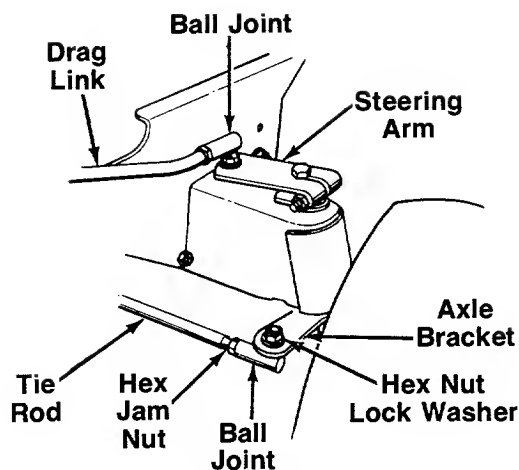

FIGURE 17.
1. Remove the hex nut and lock washer, and drop the end of the tie rod from the axle bracket. See figure 17.
To take off the drag link, remove the nuts and lock washers holding the ball joint to the steering gear and right front axle bracket. See figure 17.